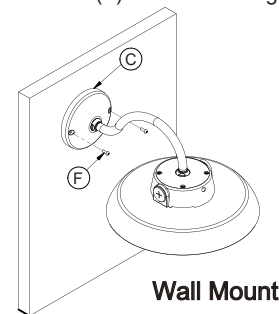

Fig.3.
4. Once wiring is complete, mount the fixture by aligning the mounting holes in the cover plate (C) with the holes in the mounting bracket. Secure with mounting bracket screws (F) as shown in Fig.3.